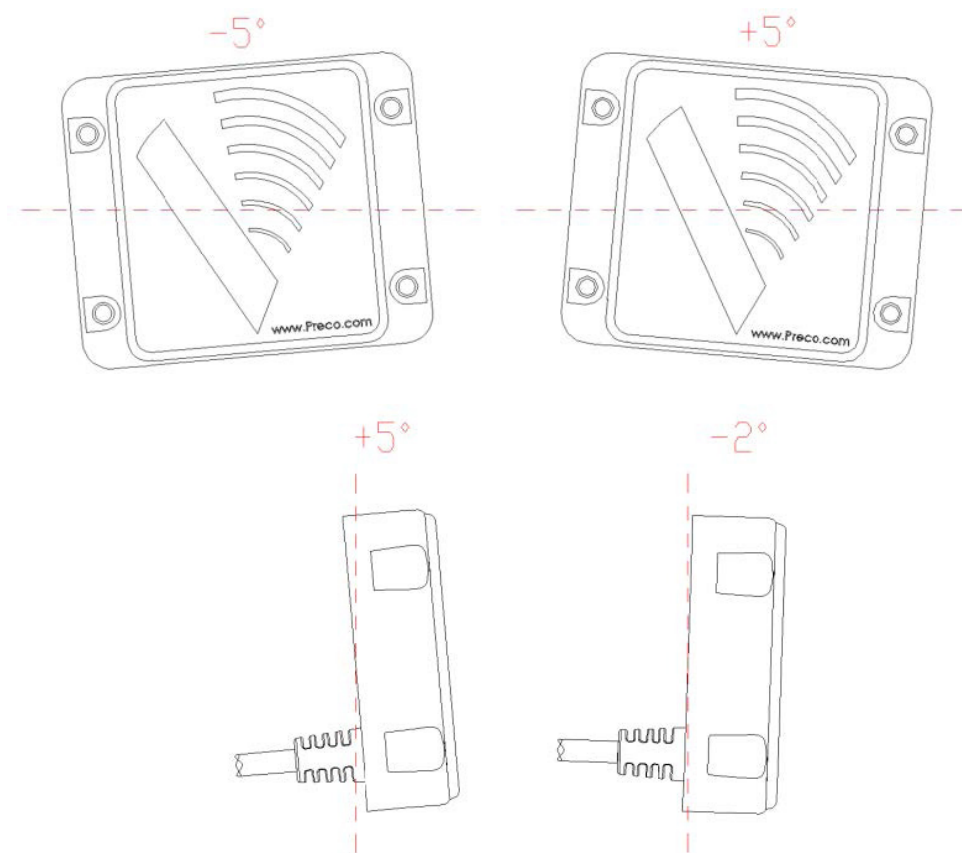
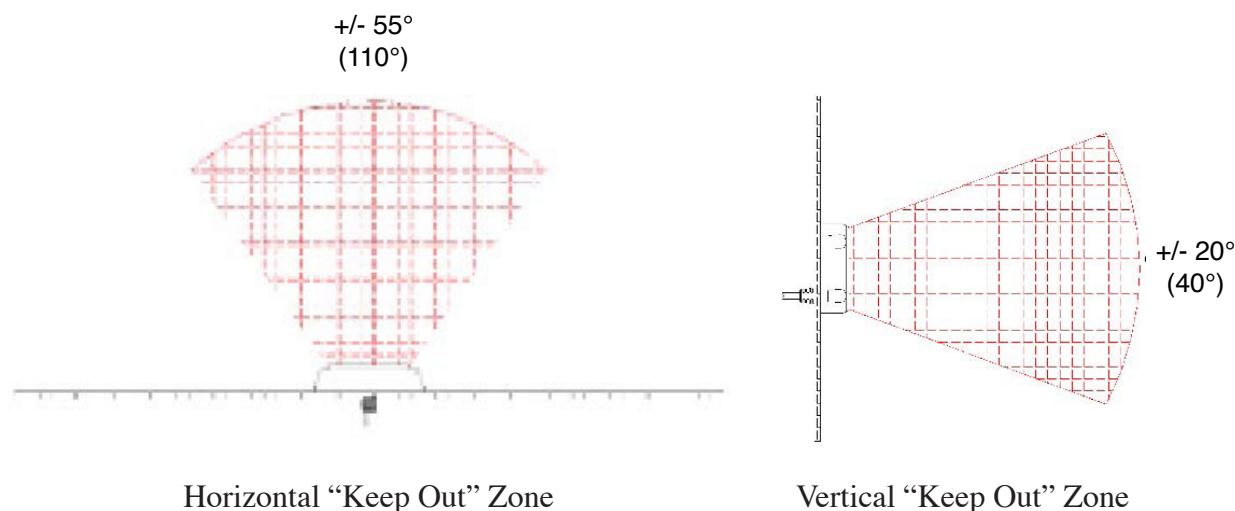

Figure 5. Vertical and Horizontal Angle Mounting Tolerances
Figure 6. Keep Out Zones
The PreView® sensor mounting location is integral to proper system operation. The sensor's detection zone must cover the blind spot you wish to monitor and the sensor must be mounted at the appropriate height. For example, to monitor a blind spot directly behind your equipment, the sensor should be mounted on the rear as close to the center of the equipment as possible. The sensor face should be perpendicular to the ground and oriented properly, see Figure 5. Select a location that will provide some protection from impact and debris while allowing an unobstructed field of view covering the targeted blind spot. Refer to the Keep Out/Interference Zones shown in Figure 6.
2. See Figure 5 for orientation of the sensor.
For optimal performance, the sensor should protrude beyond any other portion of the vehicle. If this is not possible, it is important to understand how surrounding objects can impact the sensor's performance. The sensor's horizontal field of view in the first 3' (1 m) is approximately $\pm 35^\circ$ (70°) widening to approximately $\pm 60^\circ$ (120°) between 3' and 10' (1 and 3 m). The vertical field of view is $\pm 10^\circ$ (20°). Metallic and other strong radar reflecting objects outside but near this field of view can cause interference. These objects must remain outside the expanded area shown as the "Keep Out Zones" below in Figure 6, $\pm 55^\circ$ (110°) horizontal and $\pm 20^\circ$ (40°) vertical. If your specific implementation requires radar reflecting objects to reside in the Keep Out Zones, testing must be performed to determine their influence on the sensor's performance.